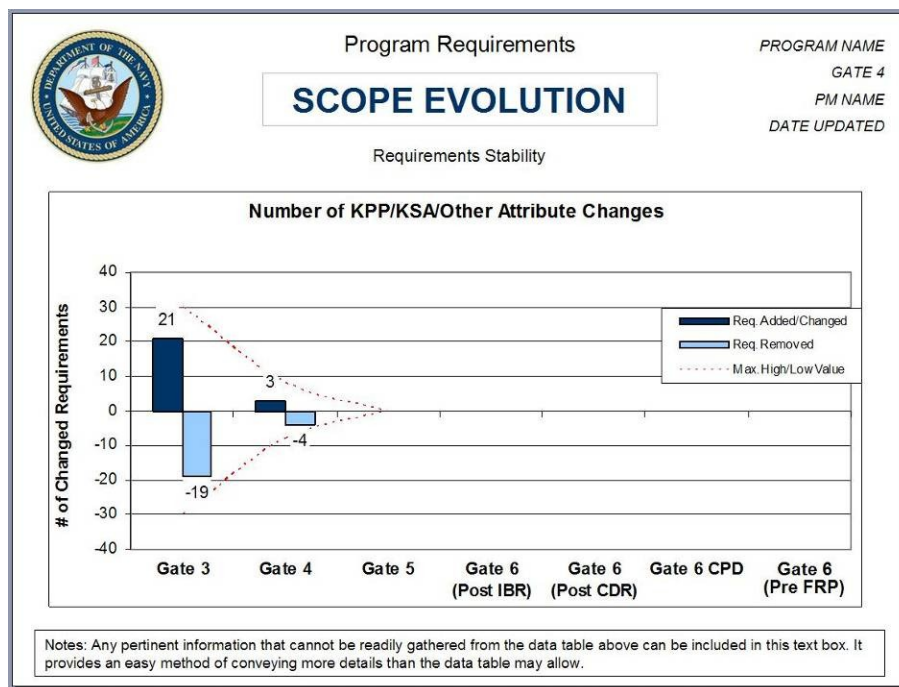

Figure 5: Final Metric Visual with graph generated in Naval PoPS Visuals Spreadsheet.
Step 4: Resize the chart or table as necessary, being careful not to distort the image (see Figure 5).